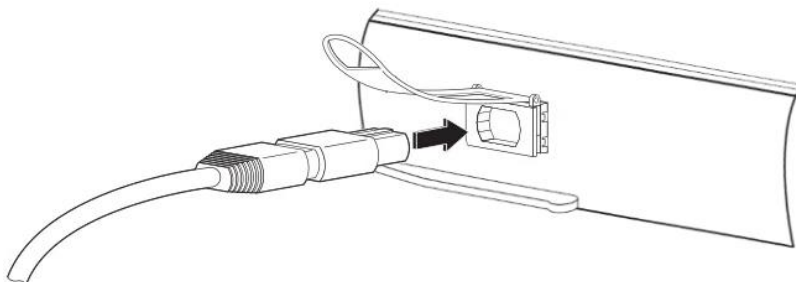

Figure 4 : Connecting the cable to QSFP+ Module
2. Insert the fiber cable into the module, as shown in Figure 4.